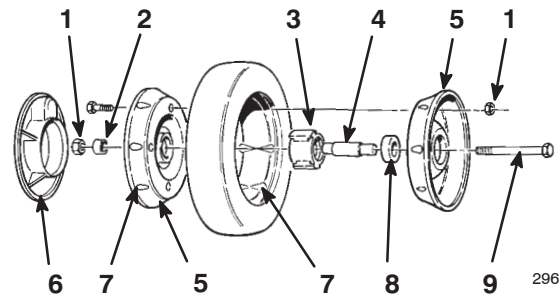

Figure 35
3. Remove the bolt, the wheel spacer, and the locknut mounting the wheel to the pivot arm (Fig. 35).
4. Separate the wheel halves from the tire by removing 4 bolts and 4 locknuts (Fig. 35).
Note: If you remove the bearings from the bearing/hub assembly, remove them by pressing on the bearing spacer (Fig. 35).
1. Position the tire onto one wheel half, aligning the lugs on each (Fig. 35).
2. Place the bearing/hub assembly into the center hole of the wheel half. Ensure that the legs of the hub are positioned over the flange of the hole (Fig. 35).
3. Place the other wheel half onto the bearing/hub assembly, aligning the wheel and the tire lugs and the mounting holes (Fig. 35).
4. Using 2 fully threaded bolts (1/4–20 x 1.50 inch) and non-locking nuts, loosely secure the wheel halves together. Mount the bolts in the opposing holes (Fig. 35).
5. Check the alignment of all parts and tighten the bolts, alternating from side to side for a uniform fit, until the wheel halves are drawn together (Fig. 35).
6. Install the 2 bolts and 2 locknuts previously removed in the remaining holes in the wheel halves and tighten. Remove the 2 long bolts and replace them with 2 bolts and 2 locknuts (Fig. 35).
7. Install the wheel to the pivot arm with the bolts, a spacer, and a locknut. Ensure that the spacer is positioned between the wheel hub and the pivot arm (Fig. 35).